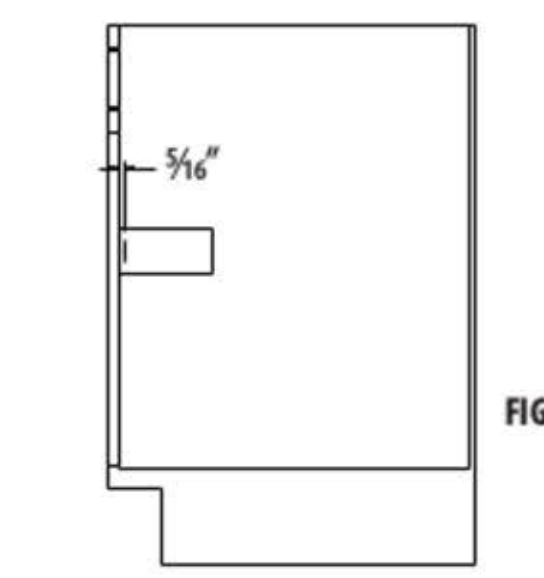

FIG. 5
6. Mark shim 5/16" from back of face frame (both sides) (see fig. 5).